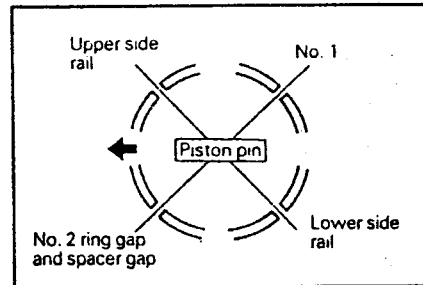

Fig. 1.42. — The correct arrangement of the piston ring gaps.
- Arrange the piston ring gaps in accordance with Fig. 1.42 on the circumference of the piston skirt. Make sure the "Front" mark points to the front of the engine.